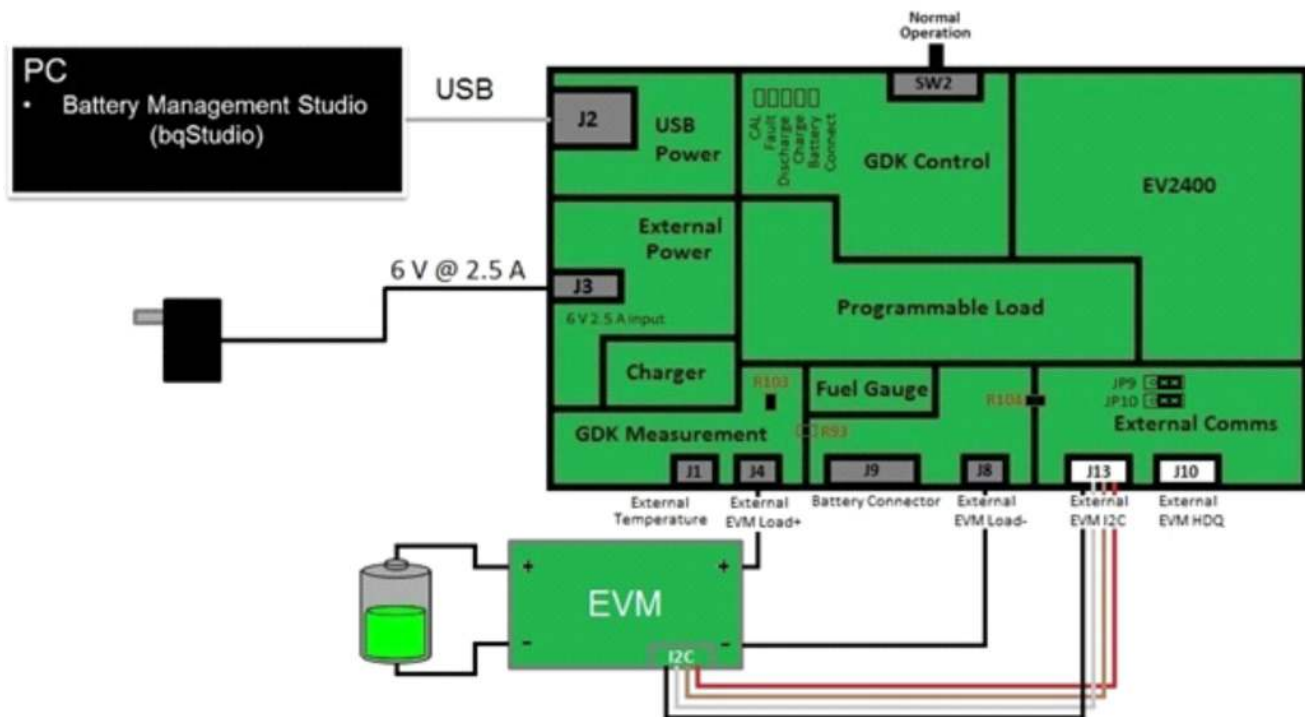

Figure 8. GDK Default Configuration—External EVM Connected
- R103 is populated with a 0-Ω resistor. R103 can be found near the GDK Measurement section (see Figure 8). This connects the GDK load/charger to the external EVM.
- R104 is populated with a 0-Ω resistor. R104 can be found near the External Comms section (see Figure 8). This connects the GDK ground to the external EVM.
Figure 8 shows the GDK default configuration.